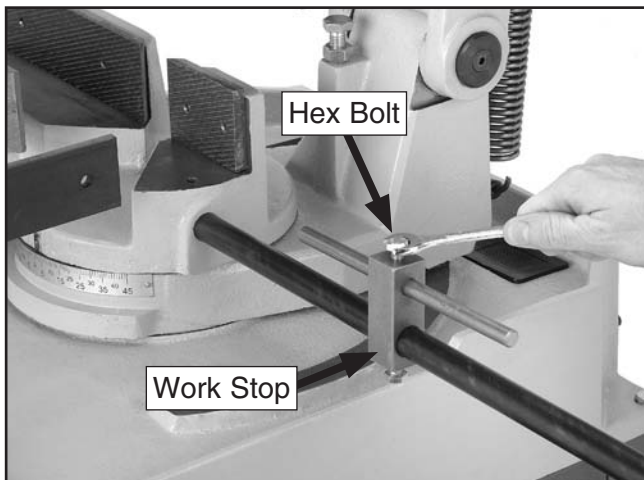

Figure 17. Work stop secured.
- Slide the work stop onto the work stop rod and secure it by tightening the hex bolt (**Figure 17**).